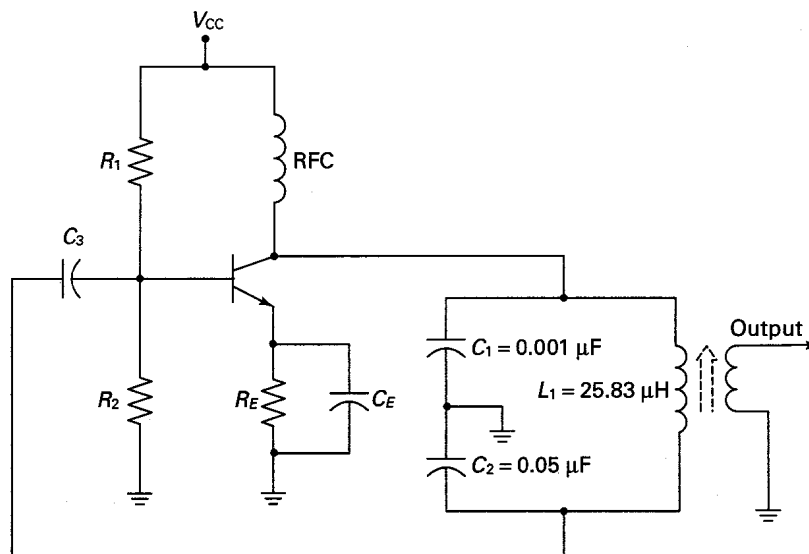

Fig. 2-32
- 2.33 Refer to Fig. 2-32. Calculate the following: (a)  $f_{osc}$ ; (b) the feedback fraction  $B$ ; (c)  $X_{C_1}$ ,  $X_{C_2}$ , and  $X_{L_1}$ ; (d)  $X_T$  of the  $L_1C_2$  branch.
- 2.34 Refer to Fig. 2-32. Assume that it is desired to obtain an oscillating frequency of 2 MHz and a feedback fraction  $B$  of  $\frac{1}{20}$ . If  $L_1 = 50 \mu\text{H}$ , calculate the following: (a)  $C_{eq}$ ; (b)  $C_1$  and  $C_2$ ; (c)  $X_{C_1}$ ,  $X_{C_2}$  and  $X_{L_1}$ ; (d)  $X_T$  (net reactance) of the  $L_1C_2$  branch.
- 2.35 Refer to Fig. 2-32. If the ac voltage across  $C_1$  equals 21 V p-p, calculate the ac voltage across  $C_2$ . (Use original circuit values.) *Ans.* 420 mV p-p